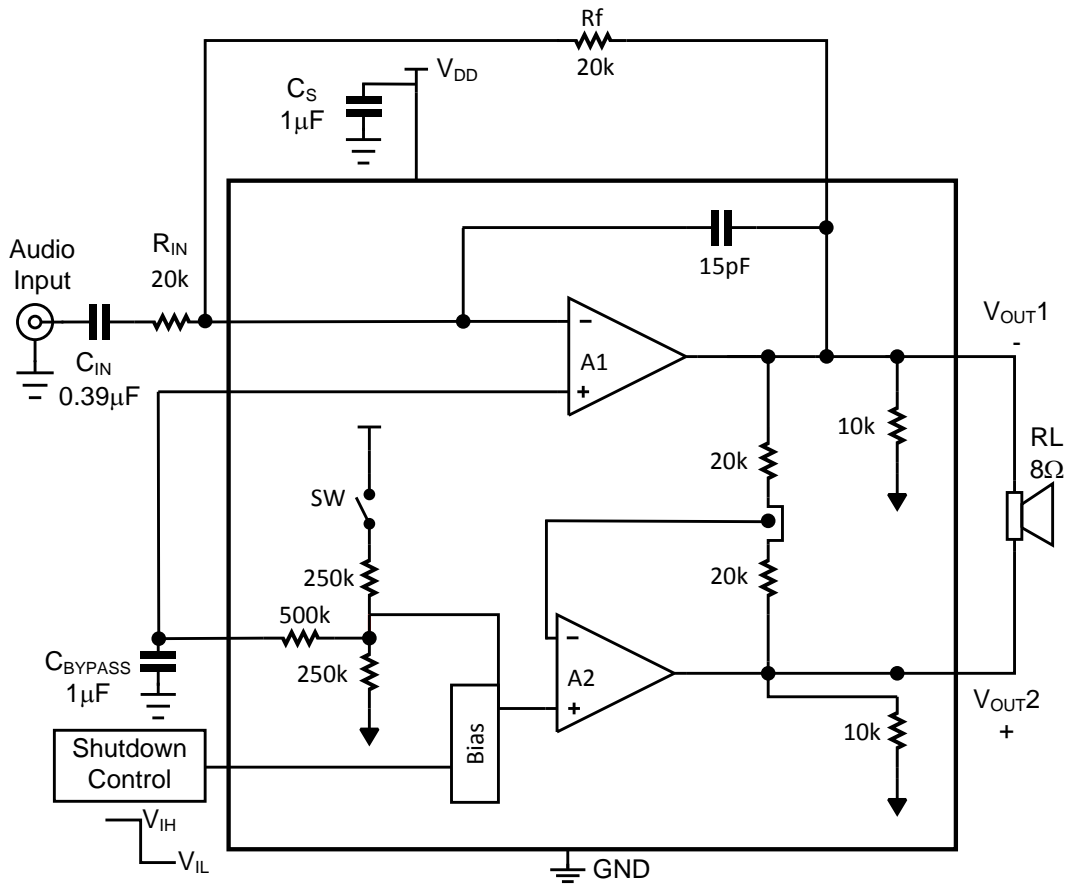

Figure 7. Typical Audio Amplifier Application Circuit
The following specifications apply for the circuit shown in Figure 7 unless otherwise specified. Limits apply for $T_A = 25^\circ C$.
- (1) All voltages are measured with respect to the ground pin, unless otherwise specified.
- (2) *Absolute Maximum Ratings* indicate limits beyond which damage to the device may occur. *Operating Ratings* indicate conditions for which the device is functional, but do not ensure specific performance limits. *Electrical Characteristics* state DC and AC electrical specifications under particular test conditions which ensure specific performance limits. This assumes that the device is within the Operating Ratings. Specifications are not ensured for parameters where no limit is given, however, the typical value is a good indication of device performance.
- (3) For DSBGA only, shutdown current is measured in a Normal Room Environment. Exposure to direct sunlight will increase I_{SD} by a maximum of 2μA.
- (4) Typicals are measured at 25°C and represent the parametric norm.
- (5) Limits are specified to TI's AOQL (Average Outgoing Quality Level).
- (6) Datasheet min/max specification limits are specified by design, test, or statistical analysis.
- (7) ROUT is measured from each of the output pins to ground. This value represents the parallel combination of the 10k ohm output resistors and the two 20k ohm resistors.
- (8) PSRR is a function of system gain. Specifications apply to the circuit in Figure 7 where $A_V = 2$. Higher system gains will reduce PSRR value by the amount of gain increase. A system gain of 10 represents a gain increase of 14dB. PSRR will be reduced by 14dB and applies to all operating voltages.
The following specifications apply for the circuit shown in Figure 7 unless otherwise specified. Limits apply for $T_A = 25^\circ\text{C}$.
(7) R_{OUT} is measured from each of the output pins to ground. This value represents the parallel combination of the 10k ohm output resistors and the two 20k ohm resistors.
(8) PSRR is a function of system gain. Specifications apply to the circuit in Figure 7 where $A_V = 2$. Higher system gains will reduce PSRR value by the amount of gain increase. A system gain of 10 represents a gain increase of 14dB. PSRR will be reduced by 14dB and applies to all operating voltages.
The following specifications apply for for the circuit shown in Figure 7 unless otherwise specified. Limits apply for $T_A = 25^\circ\text{C}$.
(1) All voltages are measured with respect to the ground pin, unless otherwise specified.
(3) For DSBGA only, shutdown current is measured in a Normal Room Environment. Exposure to direct sunlight will increase I_{SD} by a maximum of 2 μA .
(4) Typical values are measured at 25 $^\circ\text{C}$ and represent the parametric norm.
(5) Limits are specified to TI's AOQL (Average Outgoing Quality Level).
(6) Datasheet min/max specification limits are specified by design, test, or statistical analysis.
(7) PSRR is a function of system gain. Specifications apply to the circuit in Figure 7 where $A_V = 2$. Higher system gains will reduce PSRR value by the amount of gain increase. A system gain of 10 represents a gain increase of 14dB. PSRR will be reduced by 14dB and applies to all operating voltages.